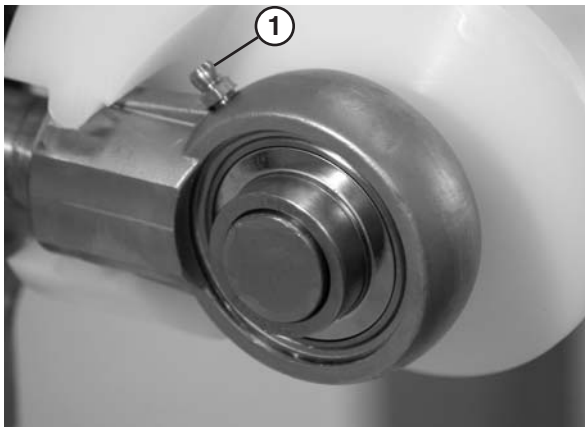

Figure 40
1. Add grease to the bearing using the zerk fitting (**Figure 40, item 1**) on the exterior of the bearing shaft assembly.